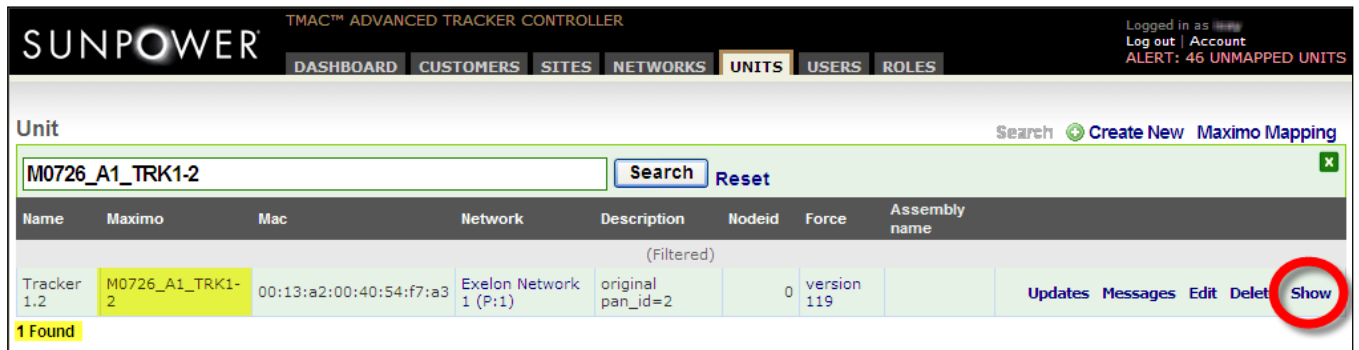

Fig. B29
3. The page displays the filtered list based on the search entry (Fig. B29). Click **Show** under the last (untitled) column to display the DTMAC unit information.